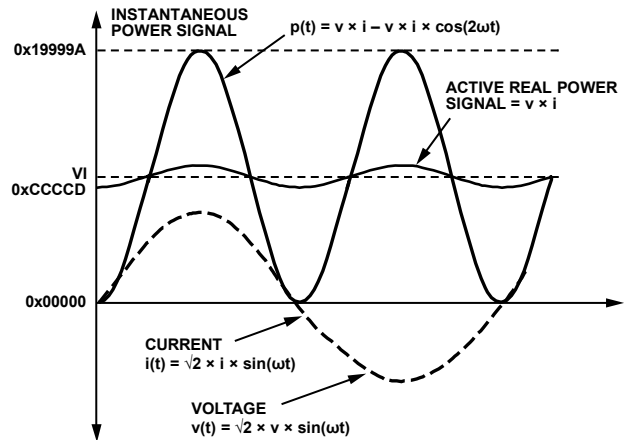

Figure 49. Active Power Calculation
Note that the active power is equal to the dc component of the instantaneous power signal $p(t)$ in Equation 9, that is, VI . This is the relationship used to calculate active power in the ADE7518. The instantaneous power signal $p(t)$ is generated by multiplying the current and voltage signals. The dc component of the instantaneous power signal is then extracted by LPF2 (low-pass filter) to obtain the active power information. This process is illustrated in Figure 49.
The ADE7518 also incorporates an active power offset register (WATTOS[15:0]). It is a signed, twos complement, 16-bit register that can be used to remove offsets in the active power calculation (see Figure 49). An offset can exist in the power calculation due to crosstalk between channels on the PCB or in the IC itself. The offset calibration allows the contents of the active power register to be maintained at 0 when no power is being consumed.
As mentioned previously, the discrete time sample period (T) for the accumulation register is 1.22 μs (5/MCLK). With full-scale sinusoidal signals on the analog inputs and the WGAIN register set to 0x000, the average word value from each LPF2 is 0xCCCCD (see Figure 49). The maximum positive value that can be stored in the internal 49-bit register is 2⁴⁸ (or 0xFFFF,FFFF,FFFF) before it overflows. The integration time under these conditions when WDIV = 0 is calculated in the following equation: